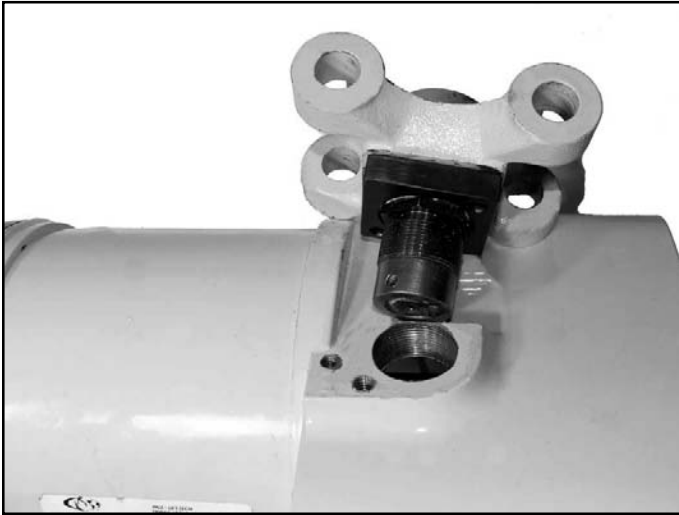

Figure 7-20. Removing Suspension Lug (1/4 thru 1 Ton Models)
(1) On 1/4 thru 1 ton models, remove screw securing suspension bushing keeper. Remove suspension lug using an extra thin 1-1/4" open end wrench to unscrew suspension bushing from frame. (See fig. 7-20).
(2) On 2 ton models, remove three hex socket head screws securing the two lock plates to block at top of frame and pull out locks. Remove suspension lug, using an extra thin 1-1/4" open end wrench to unscrew suspension bushing from block. Instructions for removing block from frame are given in paragraph b. (2).